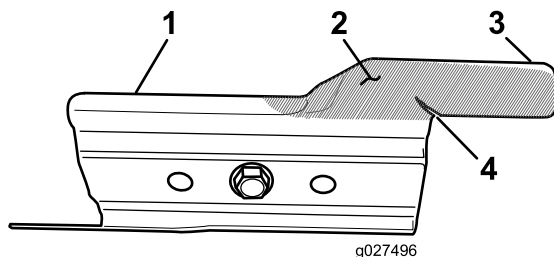

Figure 29
Carefully examine the accelerator for excessive wear (Figure 29). Because sand and abrasive material can wear away the metal (especially in the area shown as item 2 in Figure 29), check the accelerator before using the machine. If you notice that a tab on the accelerator has been worn down to a sharp edge or there is a crack, replace the accelerator; refer to Removing the Blade (page 27).